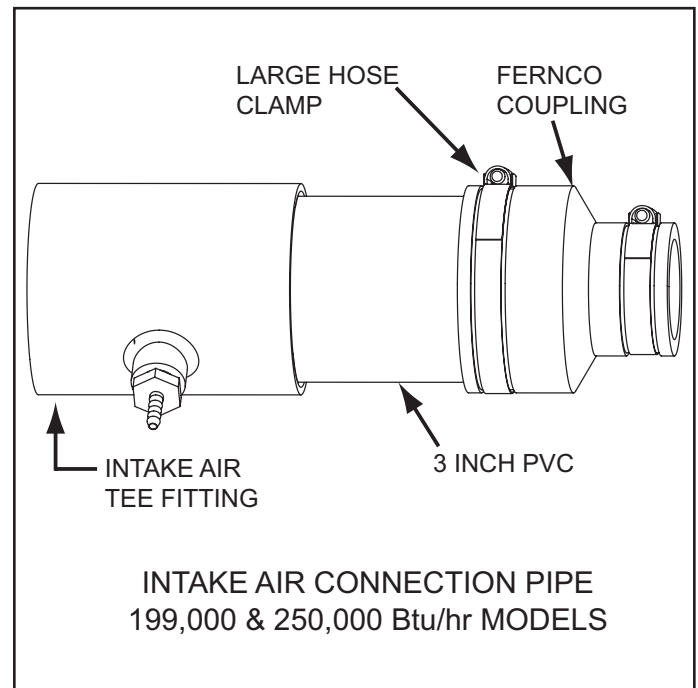

Figure 17
3. Loosen the large hose clamp on the Fernco coupling that connects the intake air connection pipe to the Combustion blower, see Figure 17.